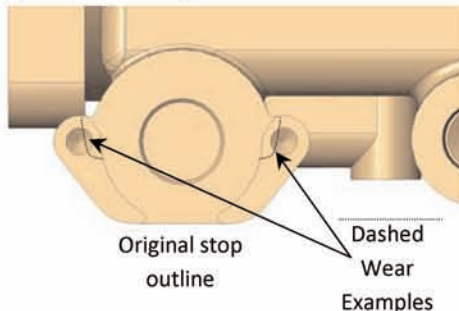
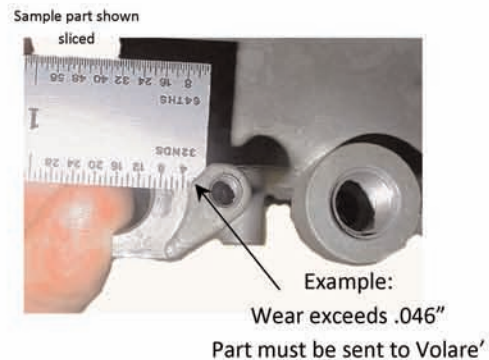

FIGURE 6
FIGURE 7
- e. Use a depth indicator, scale or other suitable measuring device to determine the depth of the wear, if any, of the stops. If the wear exceeds .046 inch below the 'original outline' of the part as shown in Figure 6, the carburetor must be submitted to Volare for repair, as in Figure 7.